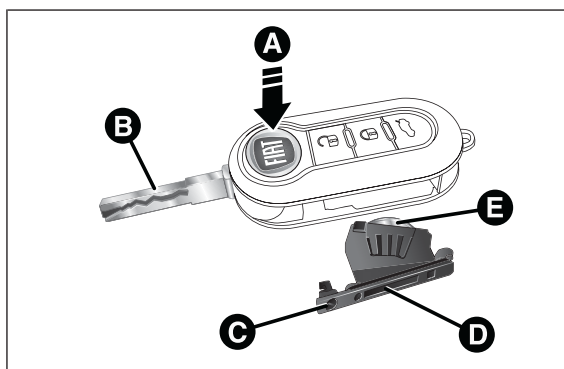

fig. 12
- ☐ press button A fig. 12 and open the metal insert B;